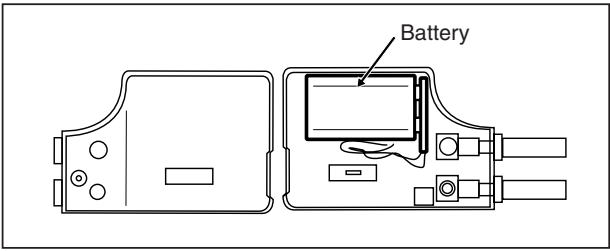

Figure 2. Battery Replacement
3. Verify the condition of the battery and if necessary, replace the battery. (Refer to Figure 2.)